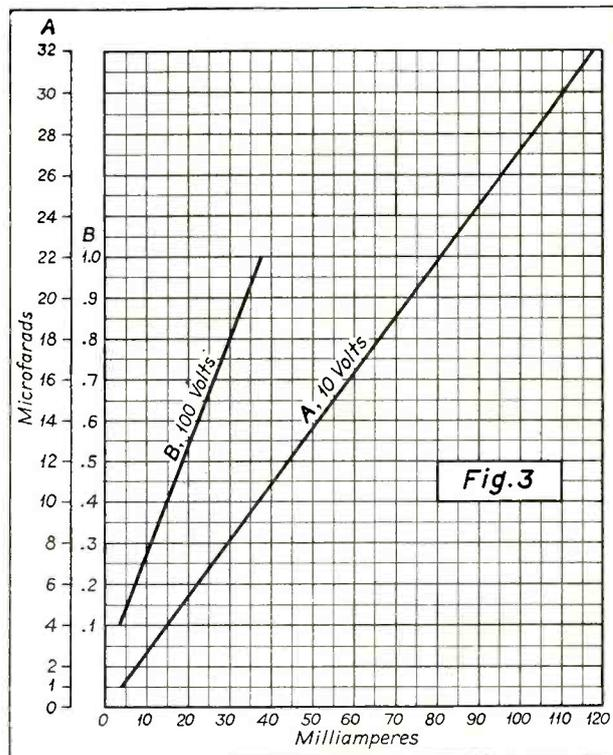

Fig. 3
It will be seen that curves may be easily plotted for various testing voltages making the accurate determination of capacities a very simple matter (see Fig. 3).
With contact at A-C, current flows up the armature, but this time crosses point A-C, and flows around through the lower half of primary (2). The result is the action seen in Fig. 3, with current flowing in the opposite directions in both the primary and secondary as in Fig. 2. When the spring action of the armature causes it to break contact A-C, the magnet is again placed in the circuit and successfully exerts its pull on the armature as described in the original action.
Fig. 3 shows the other phase of the operation of the full-wave vibrator. Contact is made at A-C, causing current to flow through the primary (2), or lower half of the primary of the transformer, with the result that the direction of the flow of current in the secondary has been reversed. Thus we have current flowing first in one direction and then another, or alternating current.